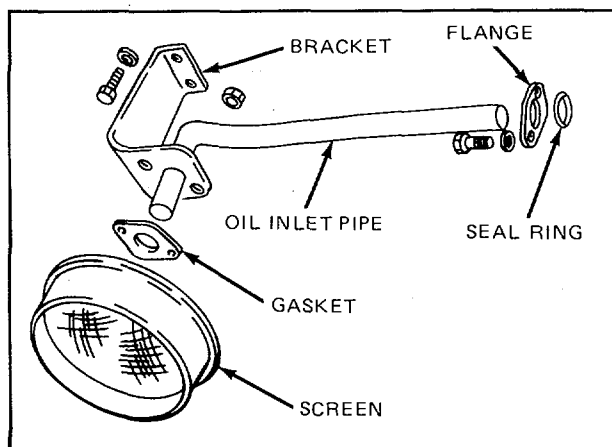

Figure 9. Oil Pump Inlet Pipe and Screen Details and Relative Location of Parts (In-Line Engine)
4. Attach the oil inlet screen to the oil inlet pipe support with two bolts and lockwashers (Fig. 9).